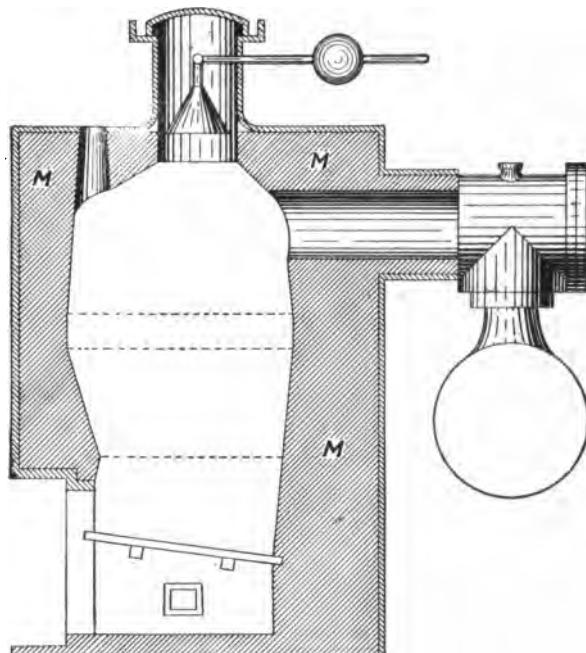

Fig. 11.
**Wellman Gas Producer.** Fig. 11 is the sectional view of this producer. A forced draft, usually a steam-jet injector, supplies steam and air to the furnace under slight pressure. The following reactions take place when air or steam unite with coal: